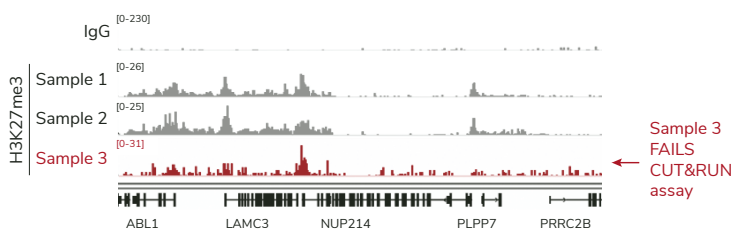

FIGURE 15
- Genomic profiles agreed with spike-in data: Samples 1 & 2 generated expected tracks for H3K27me3 & IgG, while Sample 3 profiles had poor S:N (Figure 15).